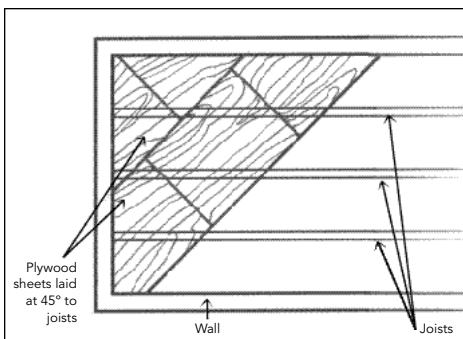

Fig. 4B
- If the flooring must be installed parallel to existing joists, an additional layer of 1/2" sheathing should be applied over the existing 3/4" subfloor at 45° angles to that subfloor. Failure to do so can result in improper hold strength in the fasteners, as well as deflection and weakening of the hardwood flooring. (See Fig. 4B.)